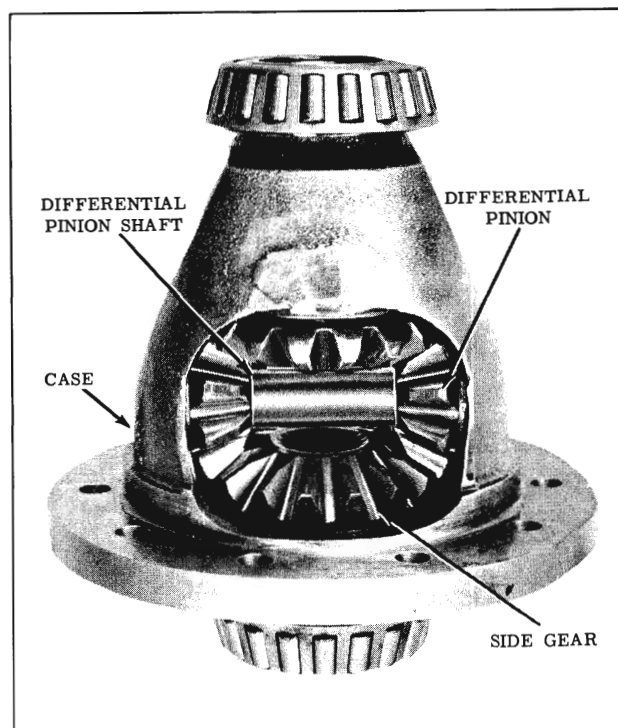

Fig. 6-114 Case Assembly
2. Position one pinion (without washer) between side gears and rotate gears until pinion is directly opposite from loading opening in case. (Fig. 6-114) Place other pinion between side gears so that pinion shaft holes are in line, then rotate gears to make sure holes in pinions will line up with holes in case.